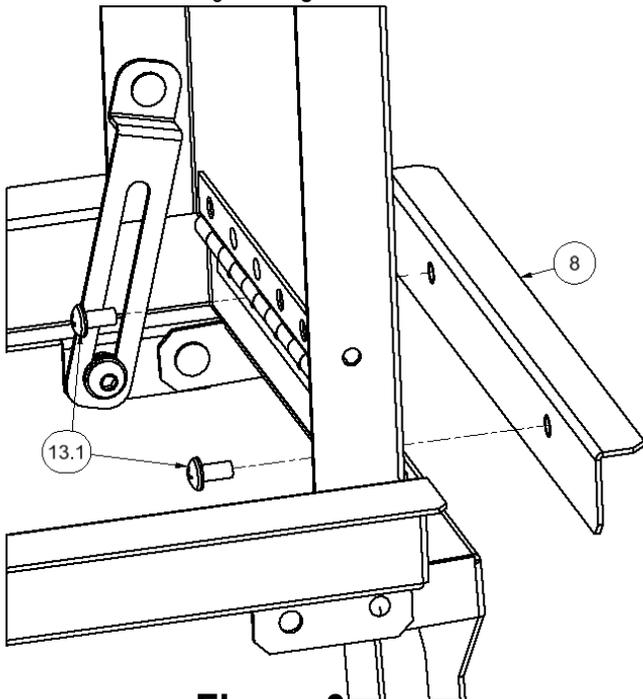

Figure 3
5. Open the Console Safe Lid and install the #8 Rear Plate using (2) of the #13.1 Machine Screws. It is generally easier to align the holes in both components when the front of the Console Safe is elevated. See **Figure 3**.